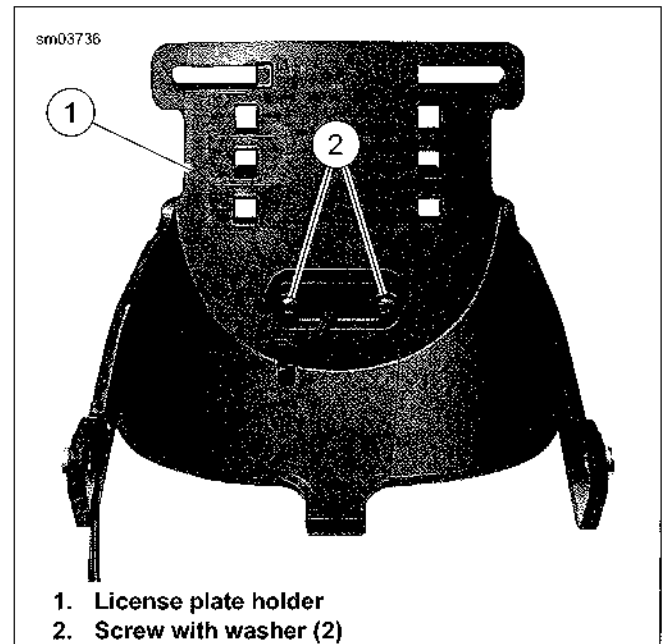

Figure 6-54. License Plate Holder and Lamp Mounting Screws: XL 883N, XL 1200X/V (HDI)
- See Figure 6-54. Remove two screws with washers (2) securing license plate lamp housing to license plate holder (1).